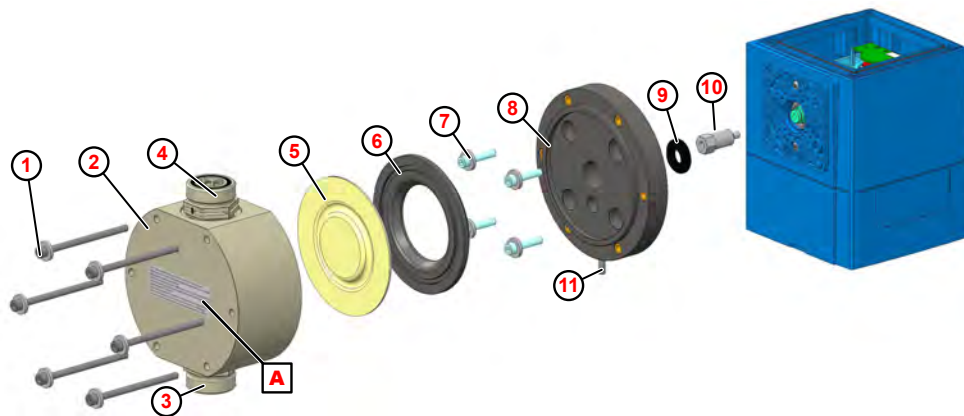

Fig. 105: Replacing the pump head, diaphragm and protective diaphragm
1. ➤ Unscrew and remove the suction and pressure valve (Fig. 105 , ③ and ④).
2. ➤ Loosen and remove the pump head screws ① .
3. ➤ Remove the pump head ② .
4. ➤ Unscrew and remove the diaphragm ⑤ .
5. ➤ Remove the intermediate plate ⑥ .
6. ➤ Loosen and remove the fixing screws for the adapter plate ⑦ .
7. ➤ Remove the adapter plate ⑧ .
8. ➤ Remove the protective diaphragm ⑨ .
10. ➤ Insert the intermediate plate so that the diaphragm rupture outlet ⑪ points downward.